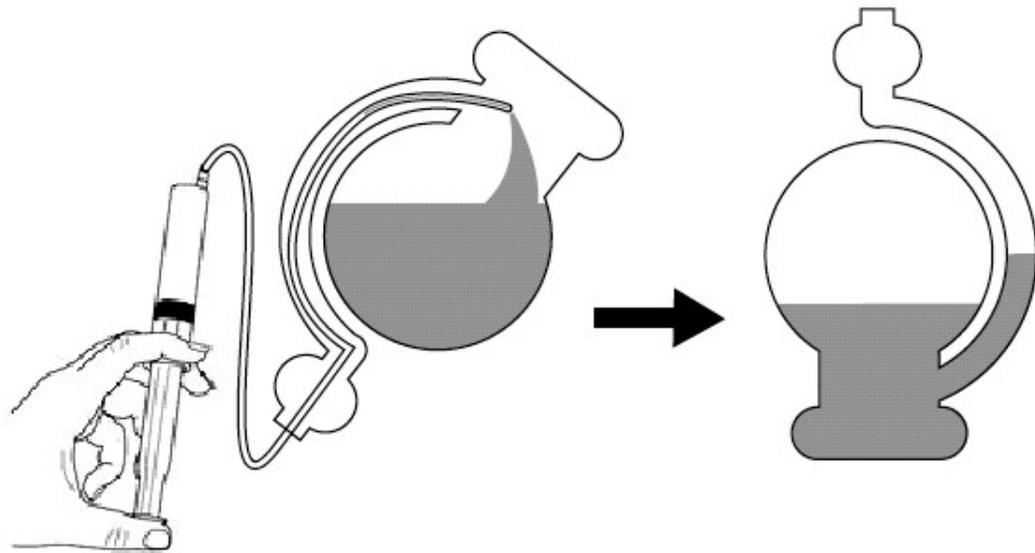

Figure 1
5. Slowly inject the liquid into the storm glass until half of the bulb is filled, as shown in Figure 1 (your glass figure may vary).
7. Use more liquid to fill the glass tube until the colored liquid has reached half way up the spout, as shown in Figure 1.